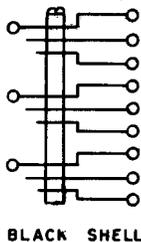

Fig. 4—406A or B Plug
2.04 **406A and B:** The 406A and B plugs (Fig. 4) consist of black shells of insulating material.